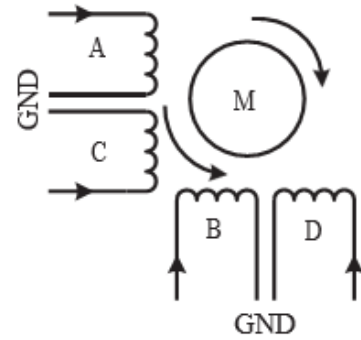

Fig. 2.18 2-Phase unipolar stepper motor
- Figure 2.18 illustrates the working of a two-phase unipolar stepper motor